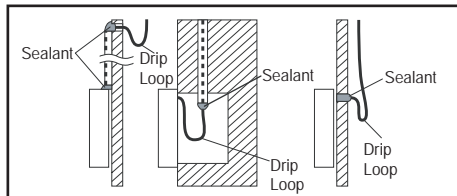

Figure 9. Prevent Water from Entering Controller Casing
3. Include a drip loop in the cable. See figure 9.
4. Seal the cable entrance to the controller casing and any wall penetrations to prevent water from entering the controller. See figure 9.